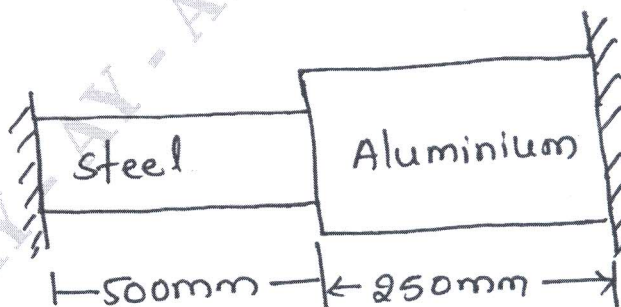

Fig.Q2(b)
- b. A composite bar made up of aluminium and steel is held between two supports as shown in Fig.Q2(b). The bars are stress free at temperature 42°C. What will be the stresses in the two bars with the temperature drops to 24°C, if